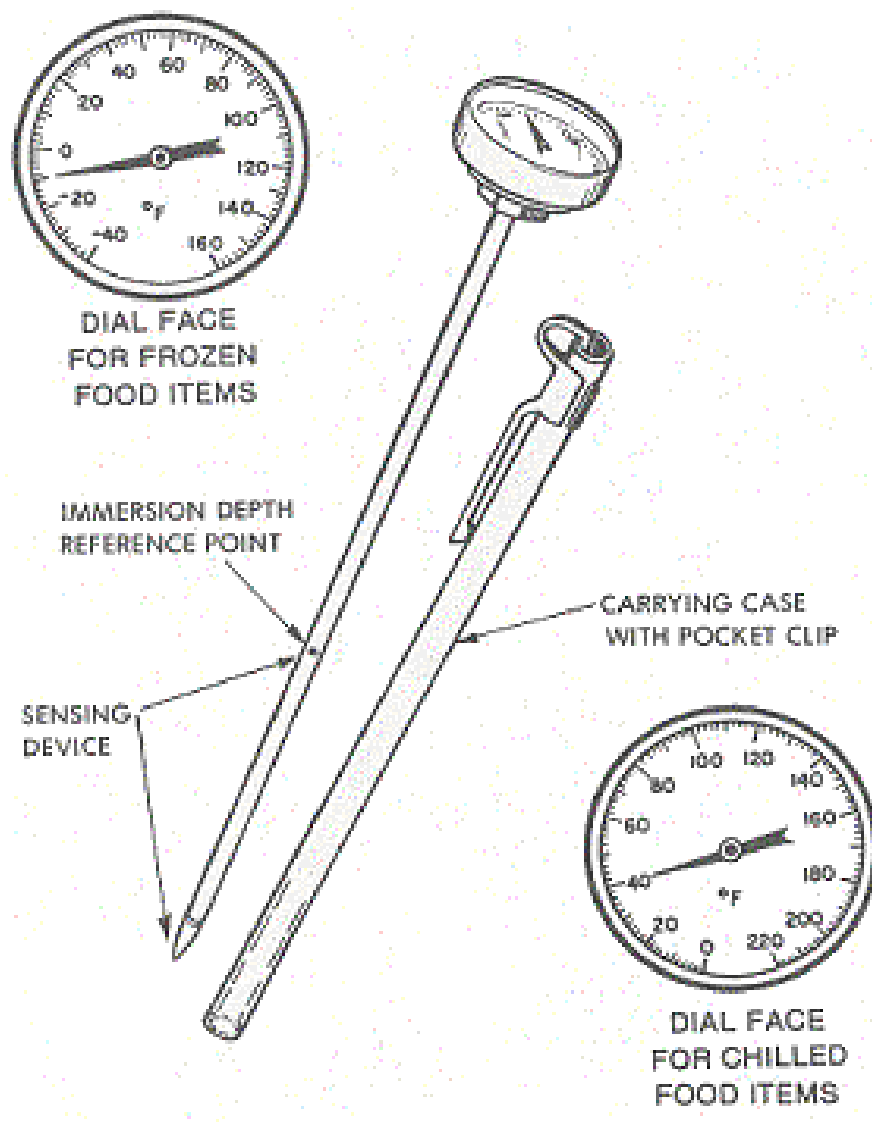

Figure 4-1. A bimetallic, direct-reading (baby dial) thermometer.
The bimetallic thermometer may also be called a baby dial thermometer or a direct reading thermometer. A bimetallic thermometer is used to determine temperatures of frozen or chilled food products. These thermometers have a stem that is a sensing device. It is about 6 inches long and can be inserted into a product. The end of the thermometer has a dial, which allows the inspector to read the temperature. It can measure a temperature from -40°F. to 160°F. A small hexagon nut below the dial allows the thermometer to be calibrated. For taking temperatures of chilled products (not frozen products), thermometers with a scale of 0°F to 220°F may be used. Each thermometer has a case with a pocket clip. Normally, three to five properly calibrated bimetallic thermometers are available for use. Only these thermometers may be used to determine temperature nonconformance. See figure 4-1.
(3) Fill the container with a 50/50 mixture of ice and water. Screw on the cap. Allow five minutes for the water and ice mixture to stabilize.
(4) Insert the bimetallic thermometer stem (the sensing device) into the ice and water mixture to its immersion depth, which is about 2 inches from the tip of the thermometer. There is a notch on the stem that serves as a reference point to indicate the immersion depth (see figure 4-1).
(5) Stir the ice and water mixture one or two turns with the thermometer to dissipate the stem heat.
(6) Keep the bimetallic thermometer in the ice and water mixture for a minimum of one minute or until the needle is stable for 30 seconds.
(7) Turn the adjustment nut with a wrench or pliers, to read 32°F. The adjustment nut is located on the bottom of the dial face (see figure 4-1). Make the adjustment while the bimetallic thermometer is still immersed in the ice and water mixture. Be careful not to touch the stem of the thermometer with your fingers.